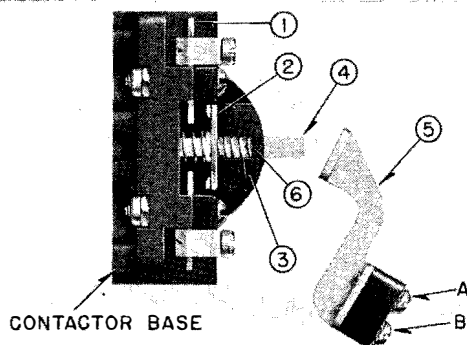
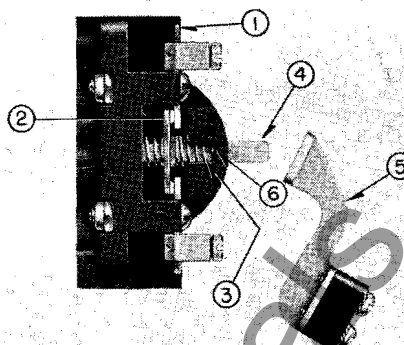

FIG. 2. Normally Open Interlock
FIG. 3. Normally Closed Interlock
This reversing unit comes equipped with one normally open interlock and one normally closed interlock on each contactor. By removing the interlock, shown in Fig. 2, and reassembling parts 1, 2 and 3 per Fig. 3, the interlock is changed from normally open to normally closed contact. The following procedure is recommended:
1. Swing arm (5) out of way by removing screw A and loosening screw B. (See Fig. 2).
2. To detach upper spring (3) from plunger (4) compress inturned end of spring against contact bar (2) and rotate spring until it disengages hole (6).
3. Operate reassembled interlock by hand to check freedom of moving parts before reassembling arm (5) into original position.